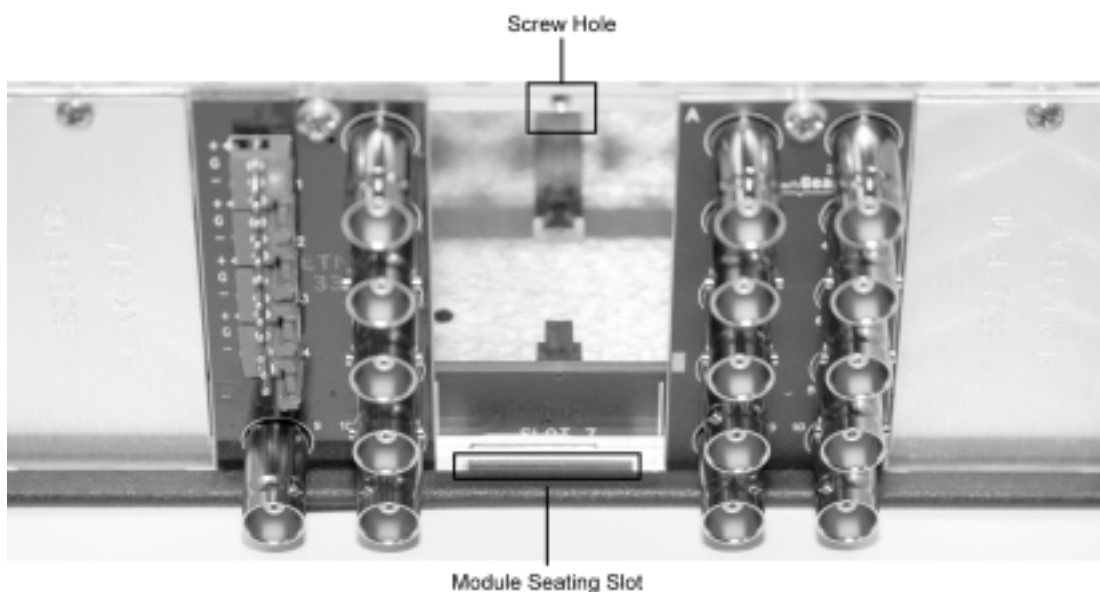

Figure 2. Rear Module Installation
3. As shown in Figure 2, seat the bottom of the RM-9002-A in the seating slot at the base of the frame's back plane.